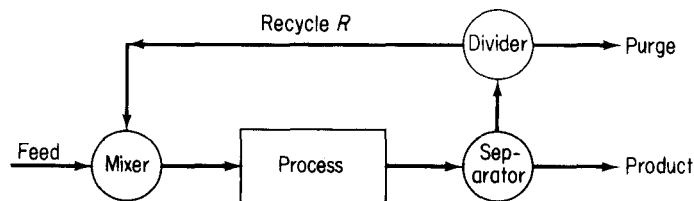

Figure 12.5 A process with a recycle stream with purge.
- b. A **purge** stream—a stream bled off from the process to remove an accumulation of inert or unwanted material that might otherwise build up in the recycle stream (Figure 12.5).